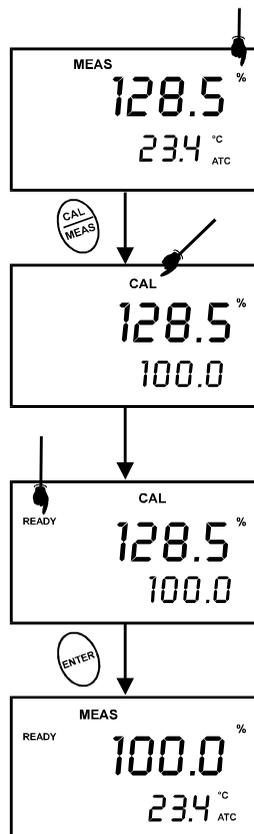

Figure 6: To calibrate for 100% saturation
3. Press the CAL key. The CAL indicator will appear above the primary display. The primary display shows the current value of the measurement and the secondary display will show 100.0. See figure 6.
6. See Figure 6.